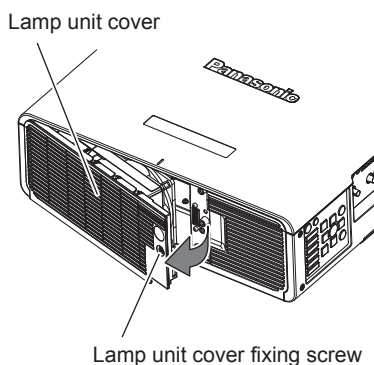

Fig. 1
1) Remove the lamp unit cover. (Fig. 1)